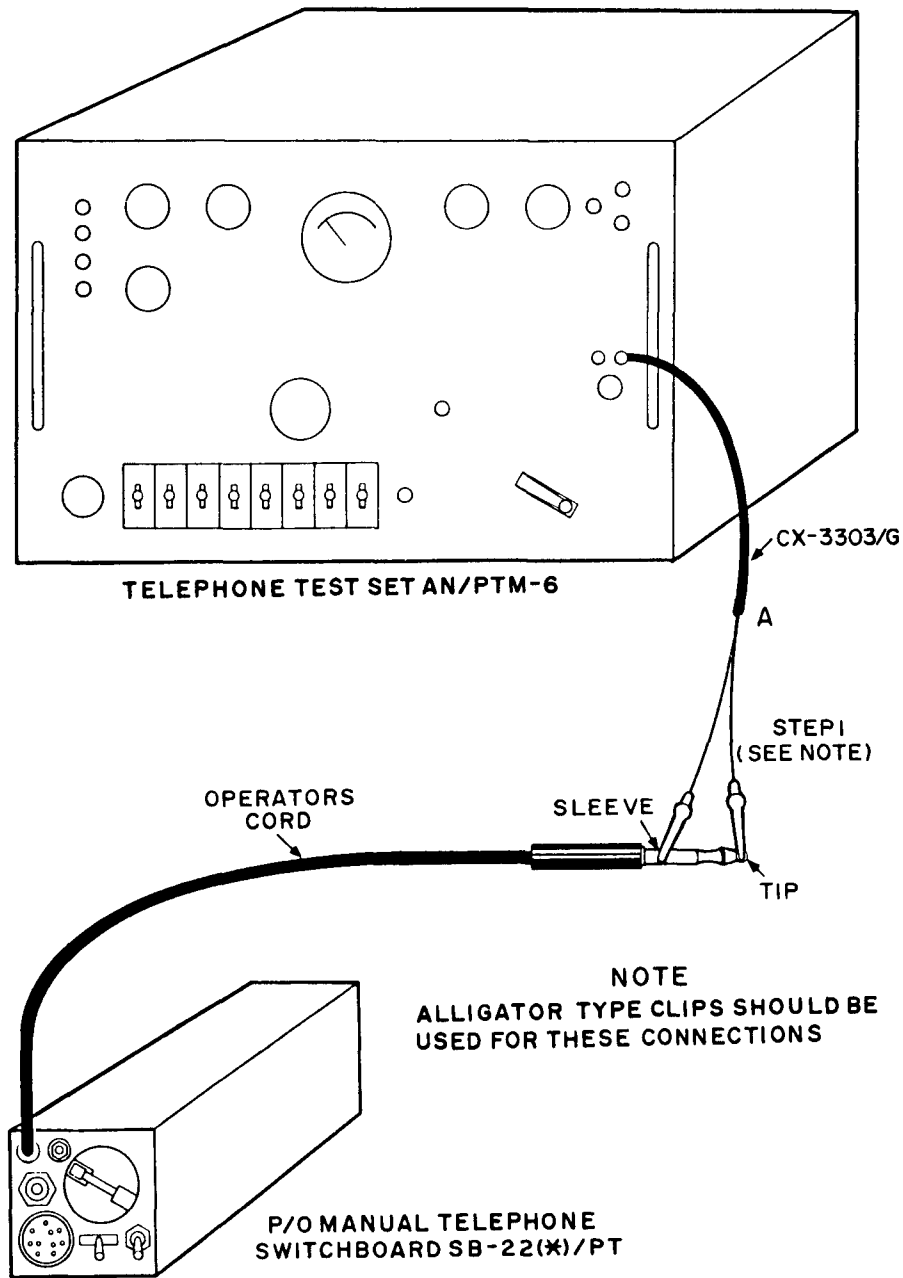

Figure 3-4. Operator's Pack, Hand Ringing Generator Efficiency Test Setup.
b. *Test Connections and Conditions.* The procedures for performing the ringing generator efficiency test are the same whether the operator's pack is installed in the switchboard or is tested separately. The test connections are shown in figure 3-4.